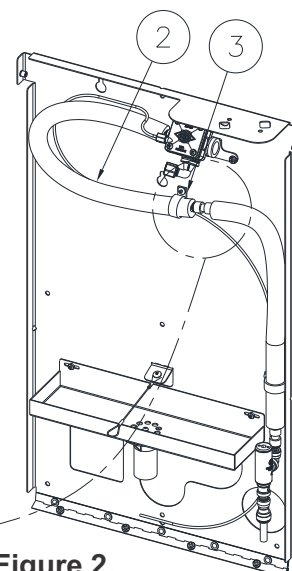
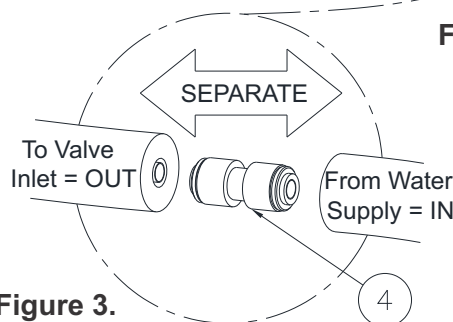
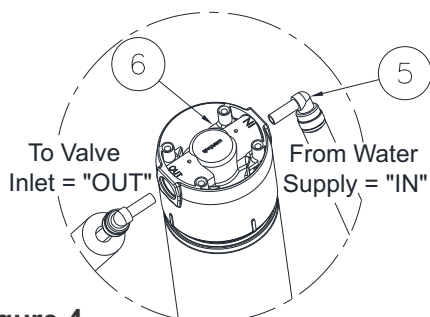

Figure 2.
Figure 3.
Figure 4.
- 2. Prep Water Supply Riser:** Remove supply riser tubing [2] from center Fixing loop [3] (**Figure 2.**) . Disconnect 1/4" O.D. tubing connector [4] as show in **Figure 3.**
- 3. Install Filter In-Line:** Using Push-in elbows [5] dry fit 1/4" O.D. tubing to Filter Cap [6] to the "IN" port of the Filter (Water Supply Side) and to the "OUT" port to the control valve inlet [7]. If needed, cut 1/4" tubing as required for proper fit. **Figure 3 & Figure 4.**